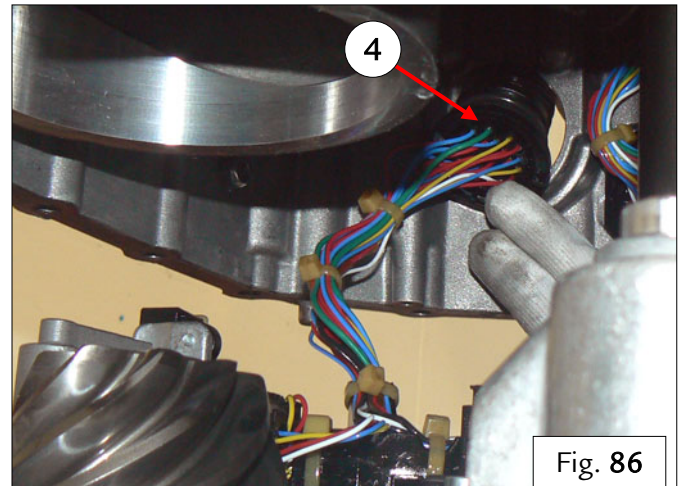

Fig. 86
- From inside the differential housing, push the SAP connection (4) through the relative hole, fastening in the correct position – Fig. 86.